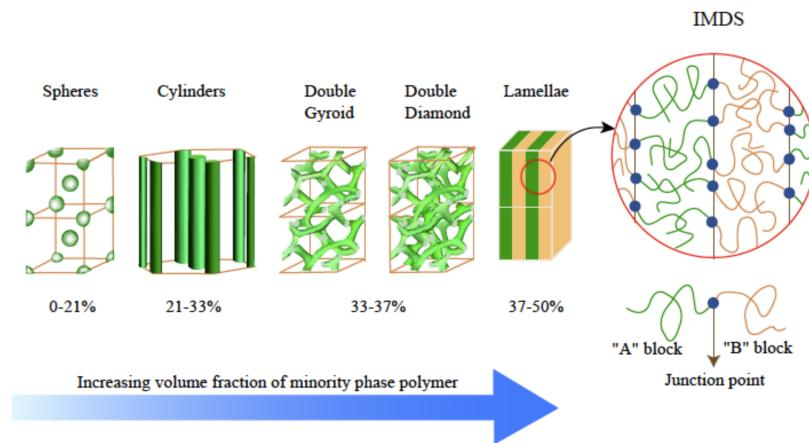

Figure 2.20: Microphase morphologies in diblock copolymers.
- In contrast to Figure 2.20, 40-60% gets you a lamellar state. This accounts for the fact that going on either side of 50% is equivalent.